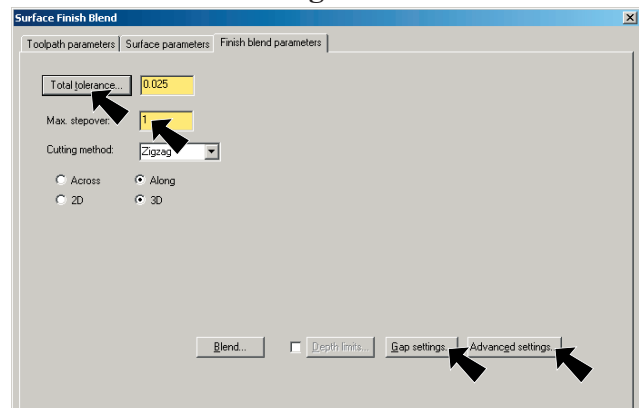

Fig. 90
Step 24. Set **Maximum Stepover: 1** Fig. 90.
Step 29. Click **Gap settings** button, Fig. 90.
Step 32. Click **Advanced settings** button, Fig. 90.